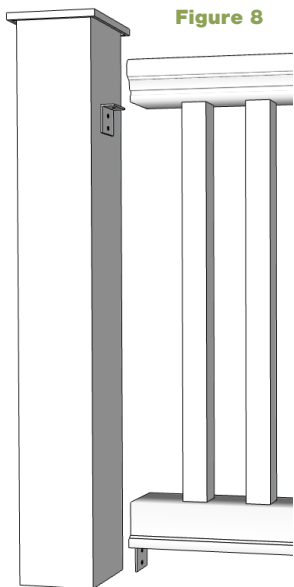

Figure 8
- A. Position top mounting brackets on posts/wall/column at the desired location so they attach to the bottom side of the top rail. Drill 1/8" pilot holes and fasten the top rail bracket to the post/wall/column. Drill 1/8" pilot hole and fasten the bottom rail bracket to the bottom of the bottom rail. Dry fit the assembly. See figure 8.